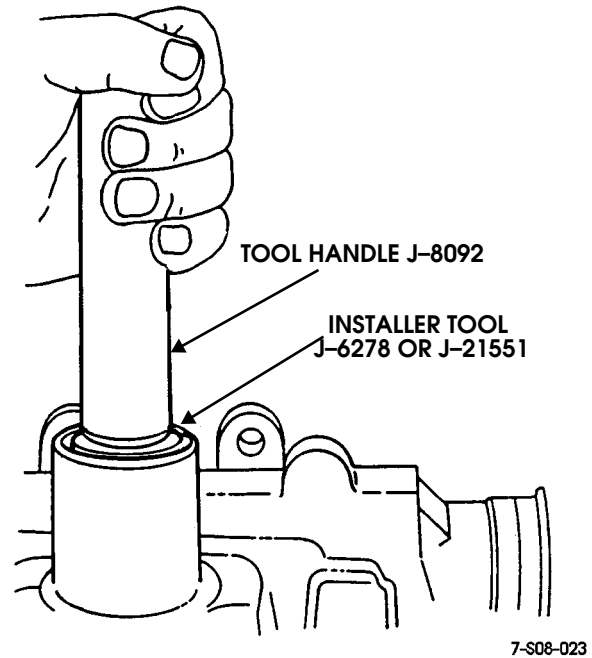

Figure 8-49: Pitman Shaft Bearing Installation
2. Install bearing in gear housing with handle J 8092 and installer J-6278 or J-21551 (Figure 8-49).